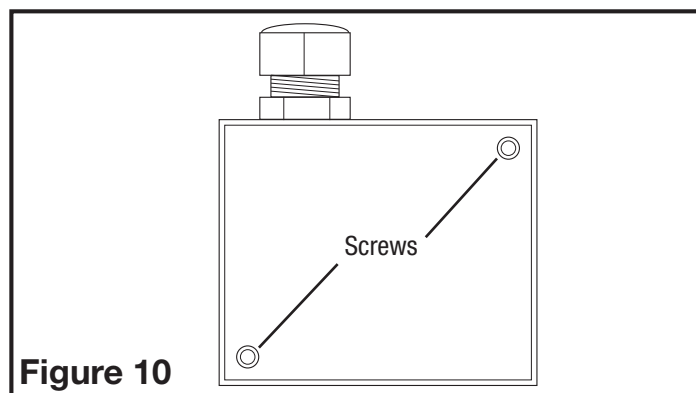

Figure 10
1. Remove the screws securing the terminal box cover plate located on the side of the motor (**Figure 10**).